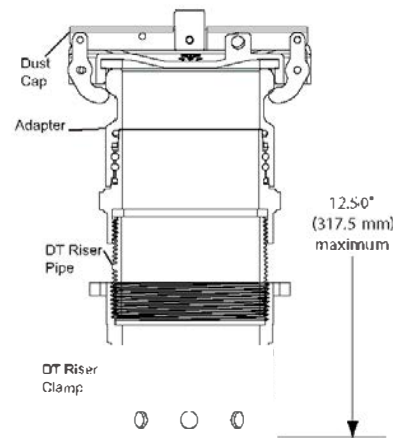

Figure 19: Drop Tube (DT) Riser Clamp Assembly Dimensions
1. Remove the DT riser clamp assembly (Figures 19 and 20) using the notched end of the double-ended installation tool (T-7106).